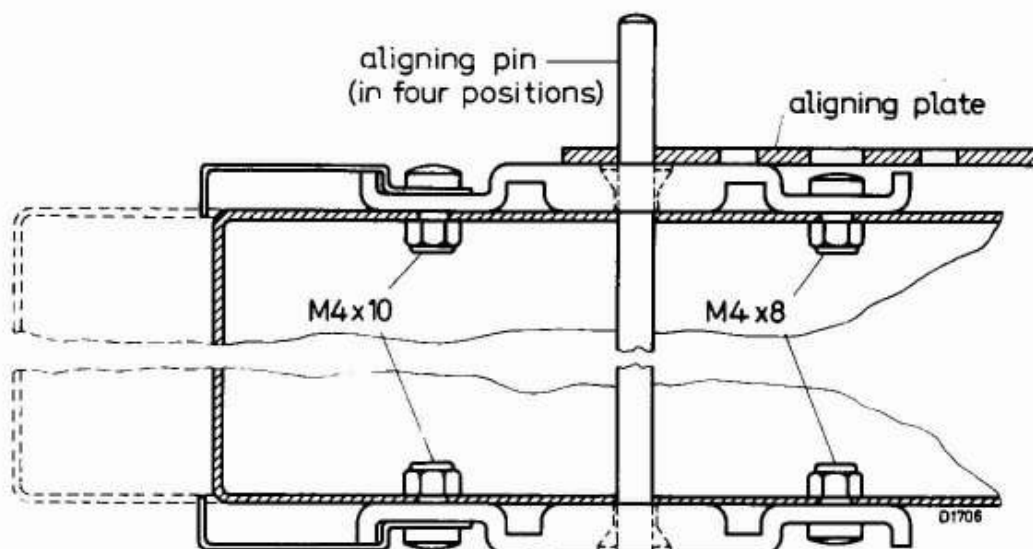

Fig. 2
4. With the chassis in horizontal position, insert the aligning pins into the counter-sunk holes and place the aligning plate over the aligning pins (see fig. 2).